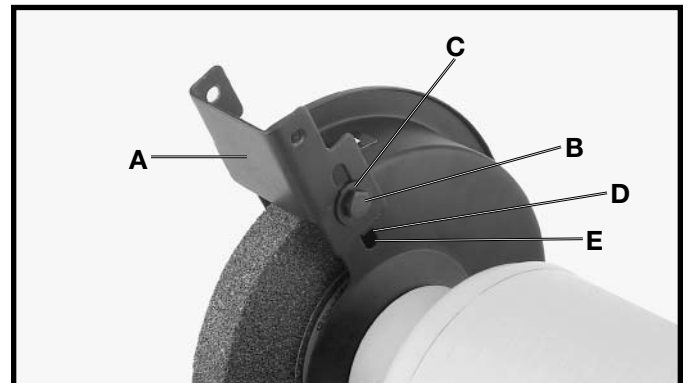

Fig. 5
The spark guard (A) Fig. 5, is mounted to the side of each wheel guard, using a 1/4-20x1/4" hex head screw (B) and 1/4" flat washer (C) as shown. **NOTE: The tab (D) Fig. 5, on the side of the spark guard (A), must be placed in slot (E), before attaching the spark guard (A) to the grinder.** The spark guard (A) should be adjusted as close as possible to the grinding wheel so that sparks never strike the operator's hand. As the wheels wear down, the spark guard (A) should be adjusted accordingly.